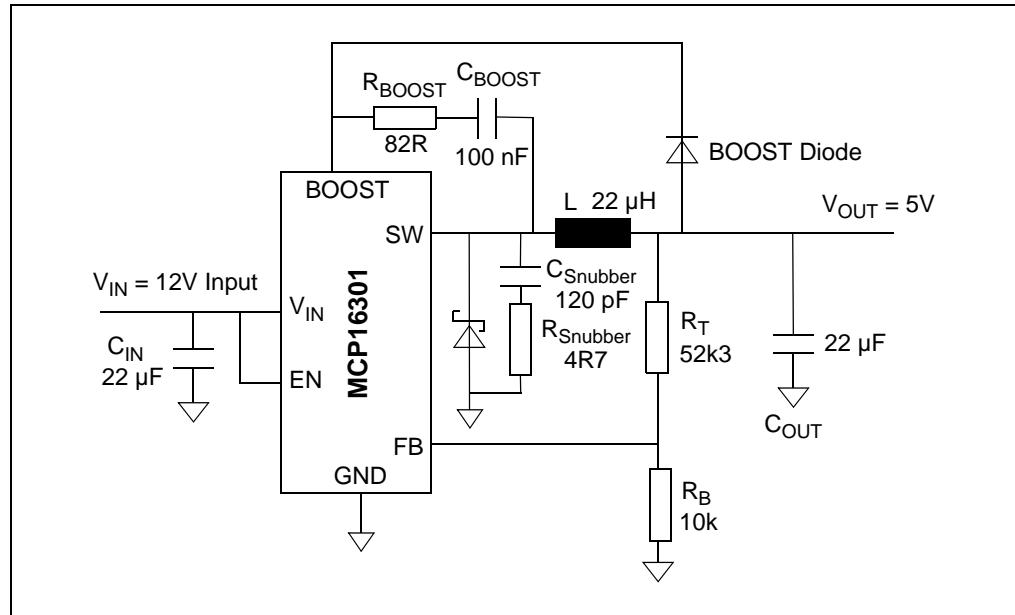

FIGURE 1-2: MCP16301 High-Performance Low-Noise 5V Buck Converter Evaluation Board Block Diagram.
- choosing an RC snubber or a R_{BOOST} resistor to properly limit the speed of the internal N-Channel MOSFET switch (see Figure 1-2).